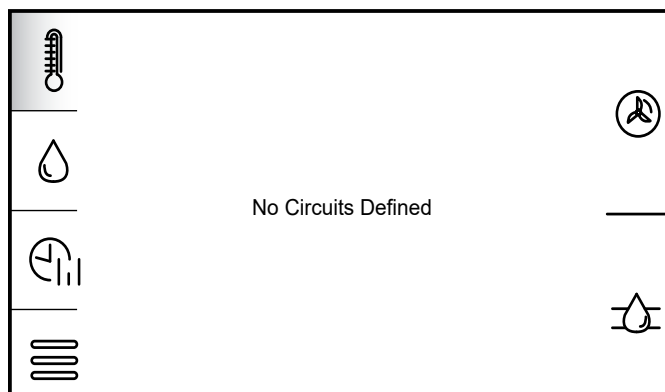

Figure 6-5: No circuits defined
6. If you tap X the controller will take you to the home screen and display 'No circuits defined'. Refer to Figure 6-5.